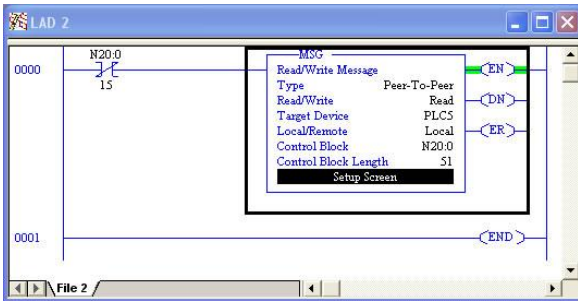

Figure 67: Completed PLC Program
7) The program is now complete. Refer to Figure 67.